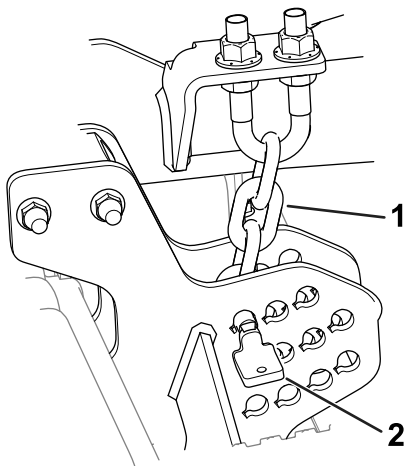

Figure 10
1. Remove the pins that secure the height-of-cut chains to the rear of the cutting unit (Figure 10).
The pin should be installed in the lowest height-of-cut chain link. The chain (Figure 10) should not be twisted.